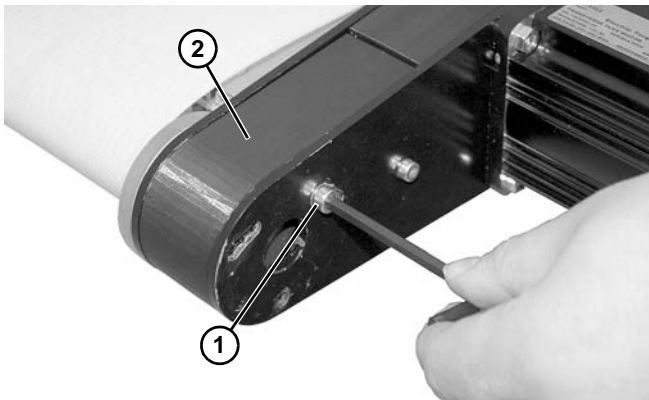

Figure 19
2. Loosen screw (Figure 19, item 1) and remove upper guard (Figure 19, item 2).